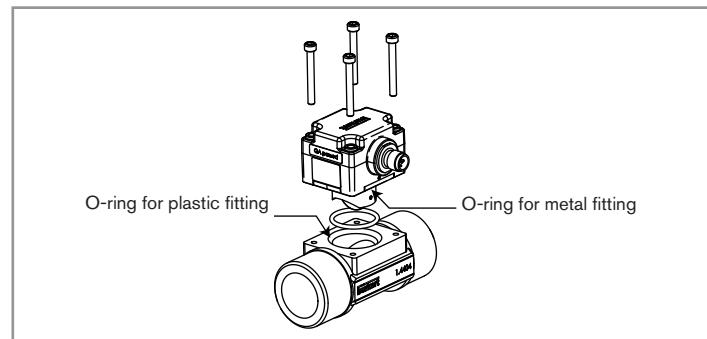

Fig. 28 : Exploded view of the 8012
- Insert the new seal (see Fig. 28).